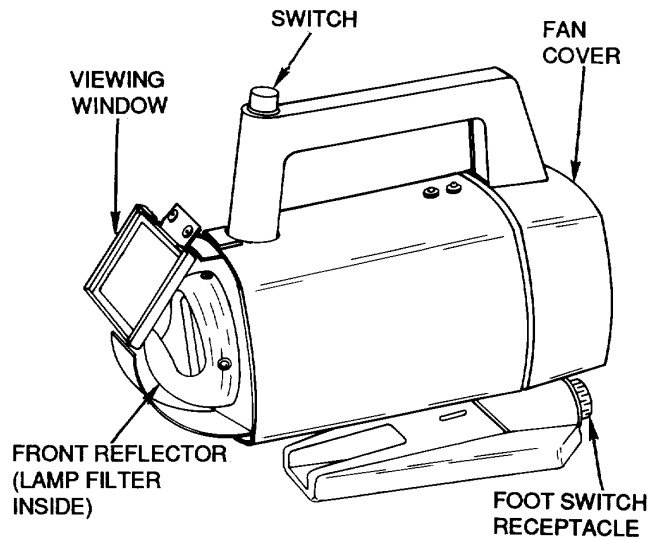

Figure 9. Infrared Heating Tool, IR-550 Mark II
31 . Infrared heating tool, IR-550 Mark II (Figure 9), is a portable electric heating tool designed for fast reliable installation of solder devices and other heat-shrinkable products. It can be used as a hand tool or as a bench heater. As a hand tool, it is operated by a switch on the handle; as a bench heater, it is operated by a foot switch or the handle switch. This tool provides an unobstructed view of work in process and quiet, hands free operation. Instant on/off heat is generated by an optically filtered, commercially available tungsten-halogen lamp. Reflectors focus the heat from the lamp, concentrating heat energy within the work area of the front reflector. Optical filter between the lamp and the work area eliminates glare from the lamp, allowing the operator to observe the heating process. Tool is also equipped with a viewing window to ensure operator eye comfort. These features minimize operator errors and fatigue, significantly reducing installation time and costs. Specifications are listed in Table 2.
32. **PRE-OPERATION.** Prior to using infrared heating tool (Figure 9), proceed as follows:
35. POST-OPERATION. After using infrared heating tool (Figure 9), proceed as follows: